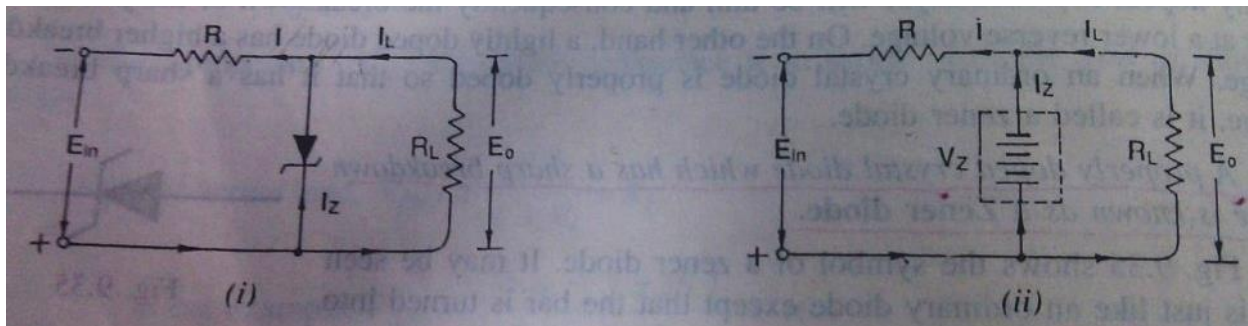

Figure 1.2.19.
A zener diode can be used as a voltage regulator to provide a constant voltage from a source whose voltage may vary over sufficient range. The circuit arrangement is shown in Figure 1.2.19. The zener diode of zener voltage  $V_Z$  is reverse connected across the load  $R_L$  across which constant output is desired. The series resistance  $R$  absorbs the output voltage fluctuations so as to maintain constant voltage across the load. Zener diode will maintain a constant voltage  $V_Z = E_O$  across the load so long as the input voltage does not fall below  $V_Z$ .
1. **Input voltage increases:** Since the zener is in breakdown region, the zener diode is equivalent to a battery  $V_Z$  as shown in Figure 1.2.19(i). It is clear that output voltage remains constant at  $V_Z = E_O$ . The excess voltage is dropped across the series resistance  $R$ . This will cause an increase in the value of total current  $I$ . The zener will conduct the increased current while the load current remains constant. Hence, output voltage remains constant.